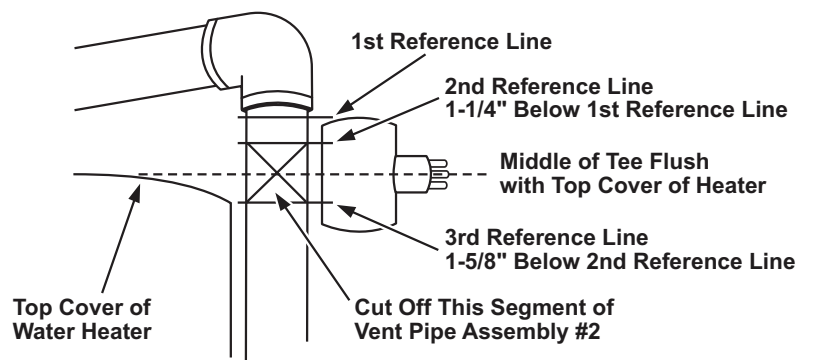

FIGURE 1B.
4. Use the following steps to mark and cut off a segment of Vent Pipe Assembly #2. Refer to Figure 1B.